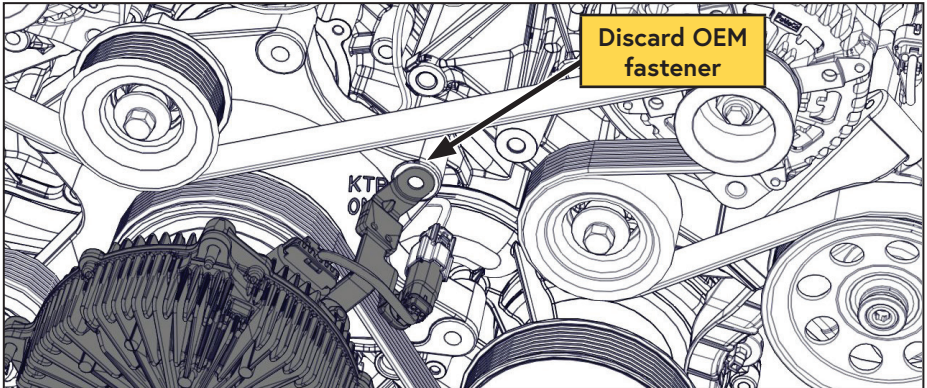

Figure 7 — Disconnect fan harness
- ☐ Disconnect the radiator fan harness and remove and discard the OEM bolt (Figure 7).